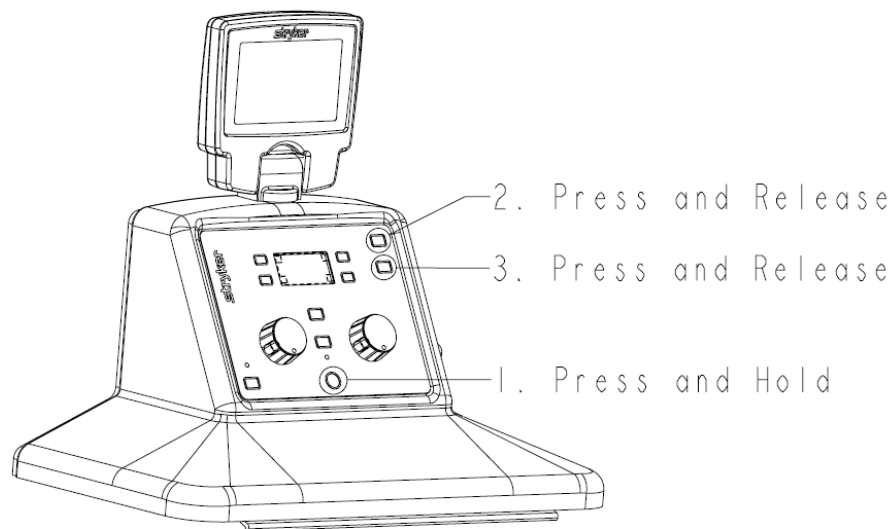

Figure 3: Accessing the Technician Menu
3. To access the technician menu from the system settings menu, hold down the Vacuum System power button, then press and release the IV Pole UP button, and finally press and release the IV Pole DOWN button. (see figure 3)